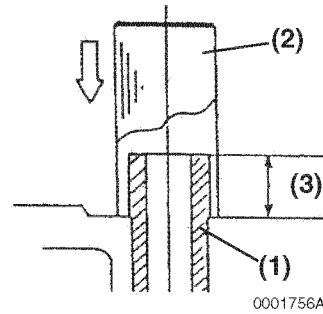

Figure 6-63
3. Finish installing the valve guides (Figure 6-63, (1)) into the cylinder head to the proper height (Figure 6-63, (3)) using the valve guide installation tool (Figure 6-63, (2)). See *Intake / Exhaust Valve and Guide* on page 6-7.